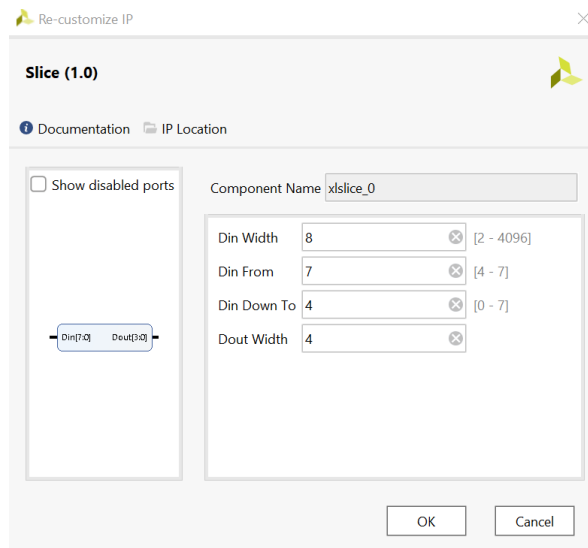

Figure 4: slice configuration for bit extraction
- 9) Add a slice component. Double click on to configure it. Select only the 4 most significant bits as show figure 4.